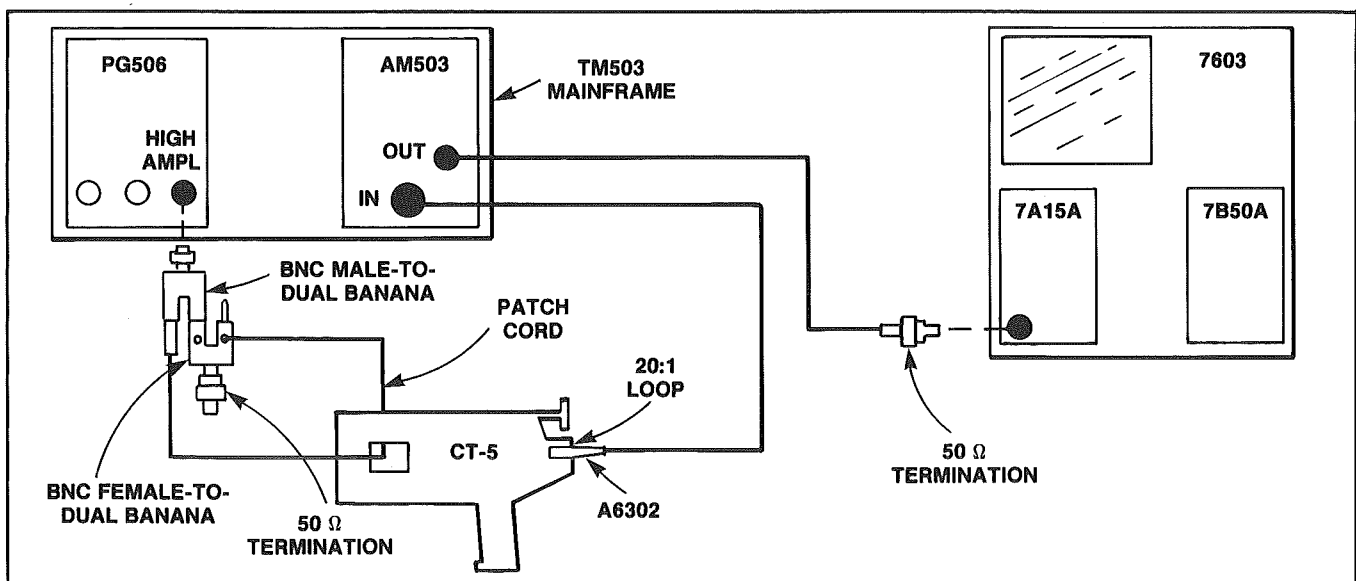

Fig. 4-1. Equipment setup for checking low-frequency response.
a. Connect the CT-5 and test equipment as shown in Fig. 4-1. Connect the BNC male-to-banana jack adapter to the High Amplitude output BNC of the PG506. Connect a 50  $\Omega$  termination to the BNC female-to-banana plug adapter. Place one leg of the BNC female-to-banana plug adapter in one leg of the BNC male-to-banana jack adapter. String the patch cord through the CT-5 core center and into the remaining open legs of the two banana adapters.